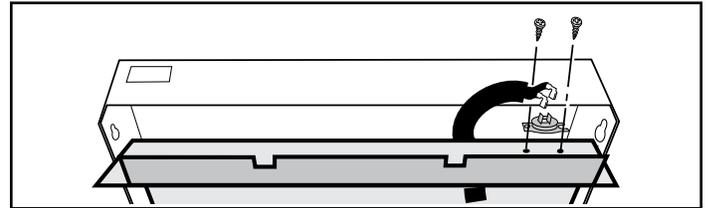
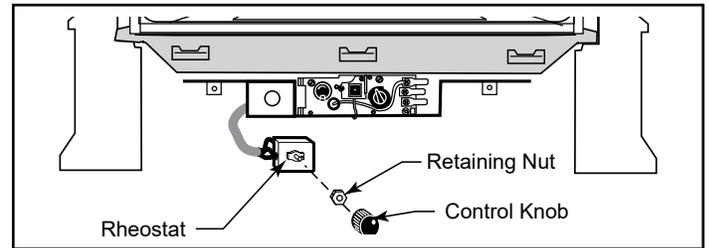

Figure 2.3 - Attach snapstat to inner shroud.
Figure 2.4 - Attach rheostat to bracket.
3. Feed the snapstat wire lead up between the inner and outer rear shroud panels and secure the snapstat to the upper right side of the inner shroud, Figure 2.3.
5. Replace shroud and tighten the two (2) hex head nuts on lower inside of shroud.
7. Install the rheostat onto the bracket to the left of the valve, Figure 2.4.